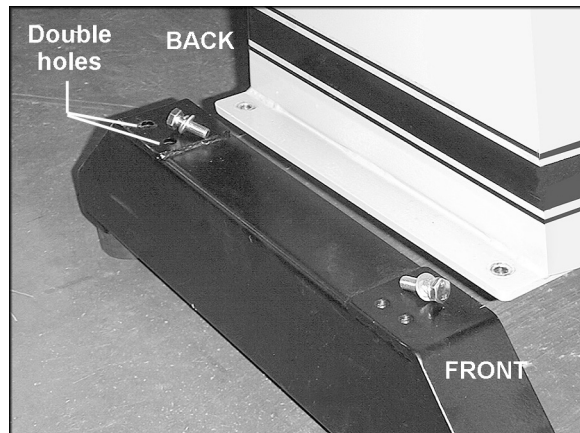

Figure 3
- 5. Orient the mounting feet beneath machine so that the ribbed sides face each other (double holes are at the outside edges). See Figure 3. Carefully lower sander until it touches mounting feet, and align the holes.